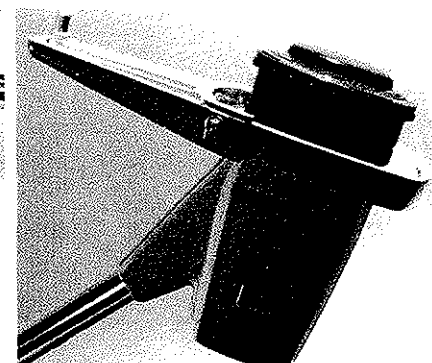

FIGURE 4
4. Place the line limiter on the rear edge of the motor housing. Insert the two screws from the outside and tighten. Figure 4.